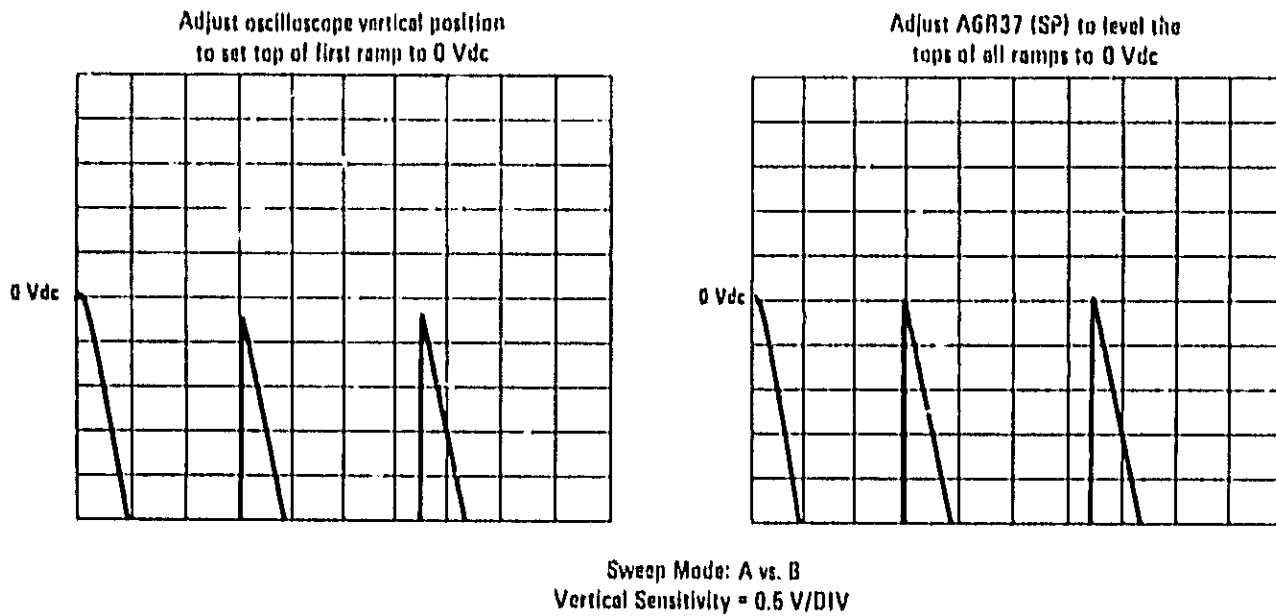

Figure 5-5. Sweep Control Adjustment Waveforms
19. Adjust the oscilloscope vertical position control to set the top of the first full 0 to -10 volt sweep ramp on the centerline as shown in Figure 5-5.
20. Adjust A6R37 (SP) to bring the tops of the remaining 0 to -10 volt sweep ramps to the center graticule as shown in Figure 5-5.